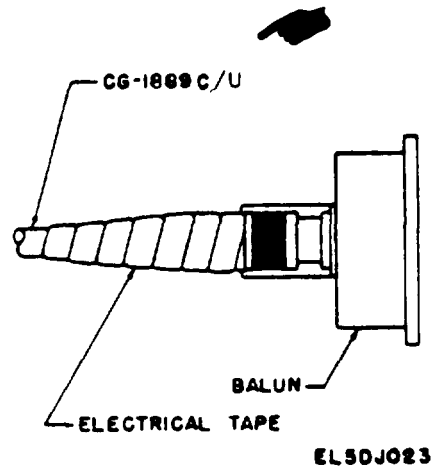

Figure 2-18. Preparing mated connectors for weatherproofing.
(1) Assemble connectors to the cable.
(2) Tightly apply electrical tape on cable immediately behind the connector to provide a smooth contour between cable and connector (fig. 2-18).